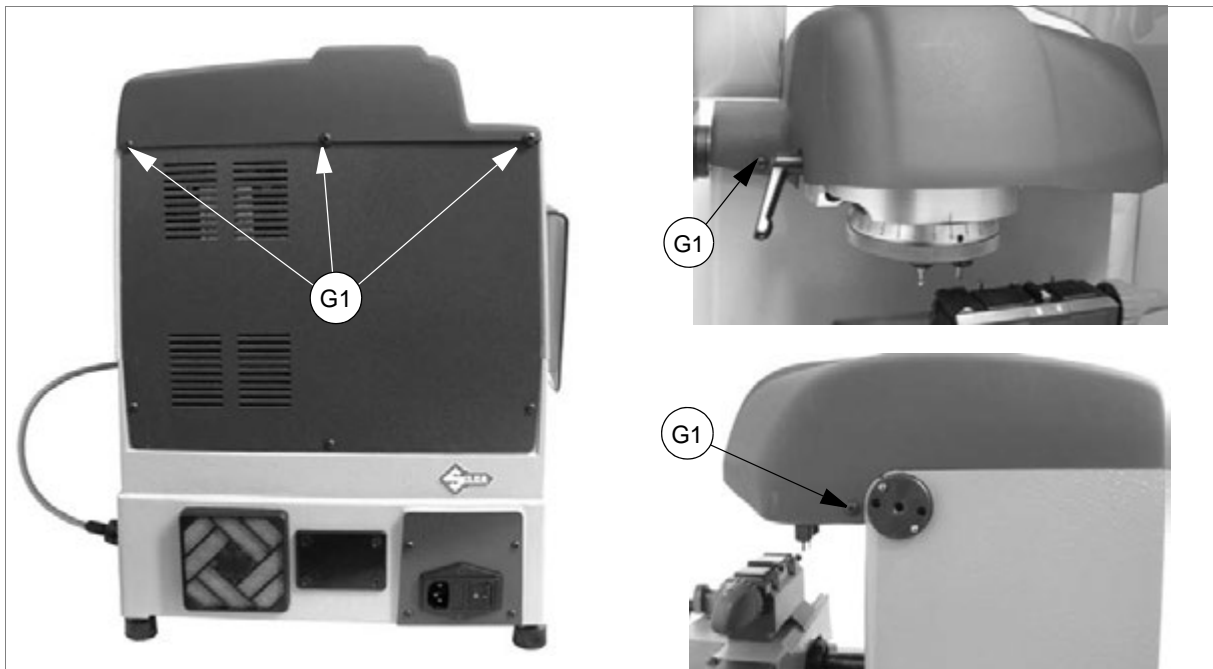

Fig. 74
- 3) loosen the 5 screws (G1) and remove the top cover (fig. 74).